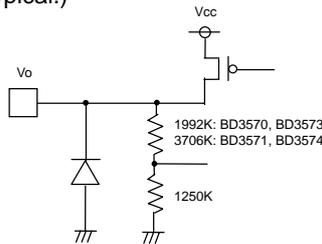

Fig.17 5PIN[Vo]
Refer to the heat mitigation characteristics illustrated in Figs. 17 and 18 when using the IC in an environment where $T_a \geq 25^\circ\text{C}$. The characteristics of the IC are greatly influenced by the operating temperature. If the temperature is in excess of the maximum junction temperature T_{jmax} , the elements of the IC may be deteriorated or damaged. It is necessary to give sufficient consideration to the heat of the IC in view of two points, i.e., the protection of the IC from instantaneous damage and the maintenance of the reliability of the IC in long-time operation.
In order to protect the IC from thermal destruction, it is necessary to operate the IC not in excess of the maximum junction temperature T_{jmax} . Fig. 17 illustrates the power dissipation/heat mitigation characteristics for the TO252 package. Operate the IC within the power dissipation P_d . The following method is used to calculate the power consumption P_c (W).